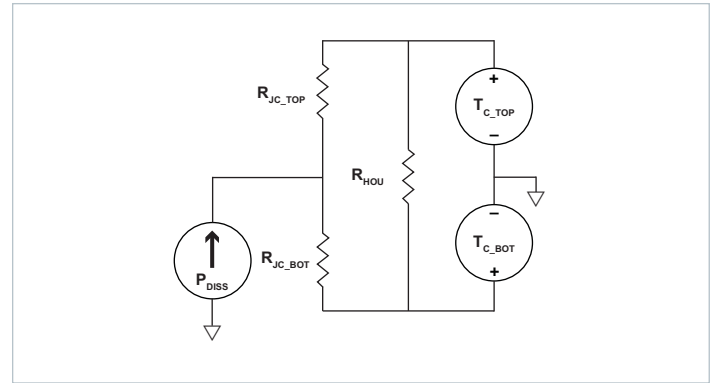
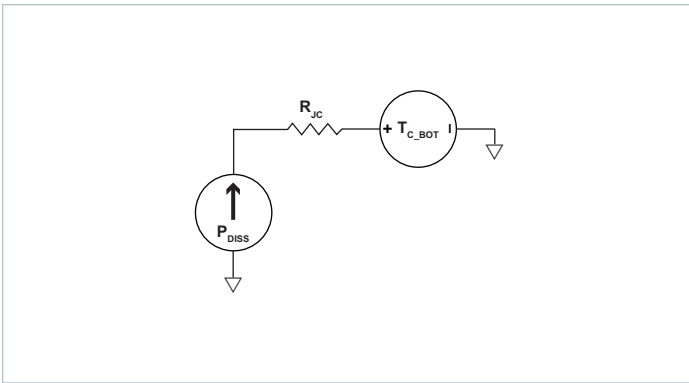

Figure 19 – Double sided cooling VIA thermal model
Figure 20 – Single-sided cooling VIA thermal model
The VIA™ package provides effective conduction cooling from either of the two module surfaces. Heat may be removed from the top surface, the bottom surface or both. The extent to which these two surfaces are cooled is a key component for determining the maximum power that can be processed by a VIA, as can be seen from specified thermal operating area in Figure 1. Since the VIA has a maximum internal temperature rating, it is necessary to estimate this internal temperature based on a system-level thermal solution. To this purpose, it is helpful to simplify the thermal solution into a roughly equivalent circuit where power dissipation is modeled as a current source, isothermal surface temperatures are represented as voltage sources and the thermal resistances are represented as resistors. Figure 19 shows the “thermal circuit” for the VIA module.
- **Single side cooling:** the model of Figure 19 can be simplified by calculating the parallel resistor network and using one simple thermal resistance number and the internal power dissipation curves; an example for bottom side cooling only is shown in Figure 20.